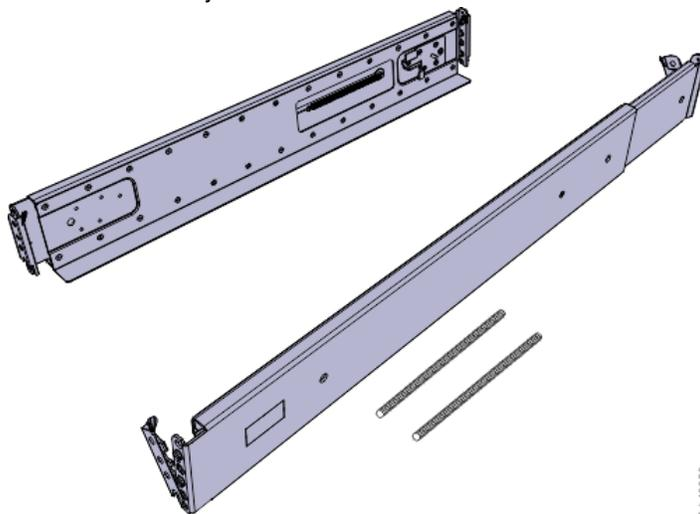

Figure 109. Expansion enclosure support rails
1. Locate the expansion enclosure rails (Figure 109 on page 174).